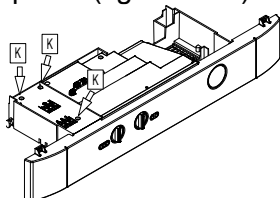

Figure 15.9
- Loosen screws K and remove the service panel (figure 15.9).